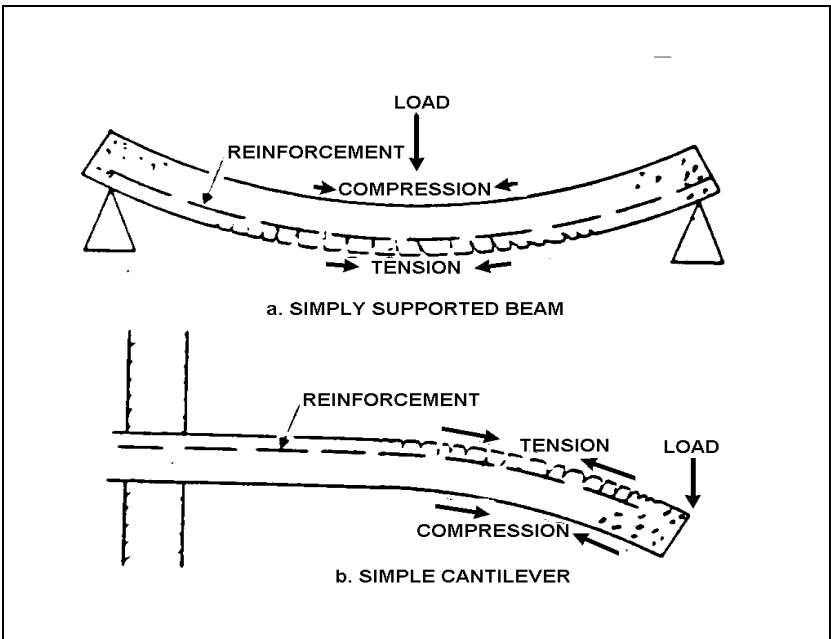

Fig 12-5-1 Reinforcement Position
1. Concrete is relatively strong in compression but weak in tension. In a loaded horizontal slab or beam, supported at both ends, the upper part is in compression, and the lower part is in tension. To obtain the maximum load capacity, steel reinforcement is inserted in the tension side to bring its strength up to that of the compression side (Fig 12-5-1).